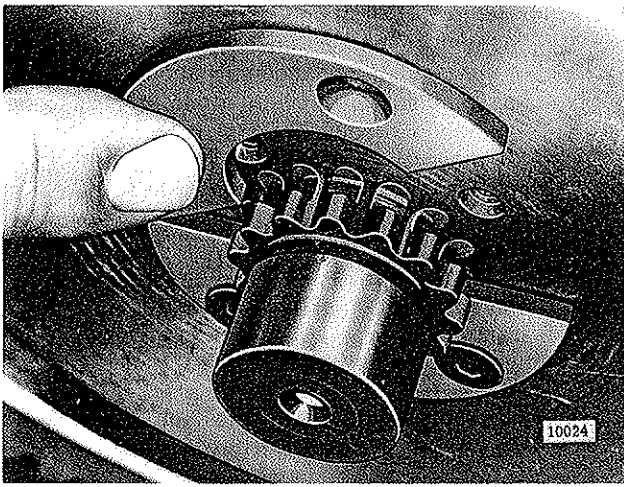

Figure 5-5. Installing Retainer Plates on Load Brake Shaft.
- (1) Remove the two (three on larger models) self-locking screws from each of two retaining plates and remove plates from groove on splines of brake shaft (Figure 5-5).
- (4) Remove (1) friction washer, roller and ratchet assembly, and another friction washer. The roller and ratchet assembly should not be disassembled; replacement, if required, as an assembly is recommended.
- (5) Remove brake shaft and flange assembly.
- (6) Check condition of all parts for evidence of wear or damage. Replace worn or damaged parts.
- (7) Reinstall in reverse procedure from disassembly making certain helix is seated and that retaining plates are properly seated in groove on shaft spline (Figure 5-5).
- (3) Do not remove the overload clutch adjusting screws unless clutch requires service. See Paragraph 5-6.e below. Remove clutch and brake gear as one unit by pulling off from brake shaft while exerting some pressure on end of brake shaft.
- (4) Remove (1) friction washer, roller and ratchet assembly, then the other friction washer. The roller and ratchet assembly should not be disassembled; replacement, if required, as an assembly is recommended.
- (6) Check condition of all parts for wear or damage. Replace worn or damaged parts.